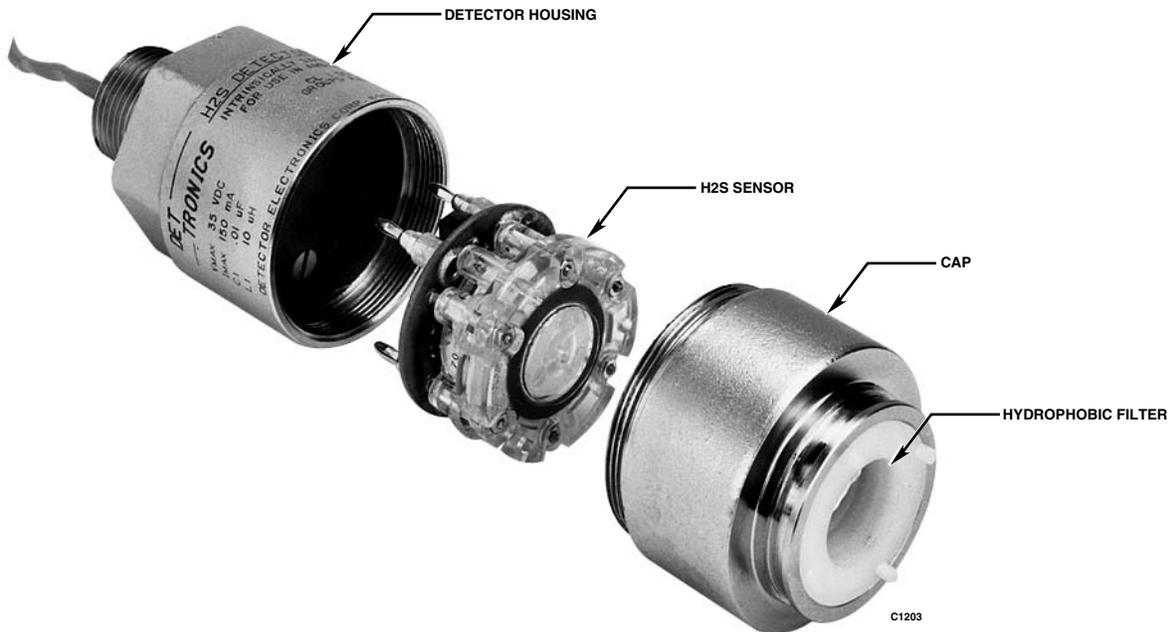

Figure 6—C7064E Detector
- After confirming that all connections are properly terminated and other installation requirements such as conduit seals are installed as required, the sensor may be installed within the C7064E detector. Begin by removing the cap from the detector housing. Refer to Figure 6.
2. Remove the cap from the detector housing. See Figure 6. (There is no need to remove the detector housing from the junction box.)